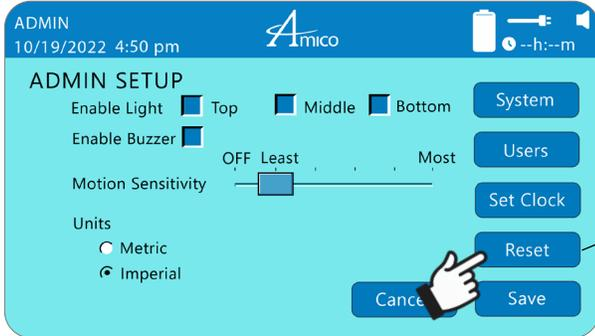
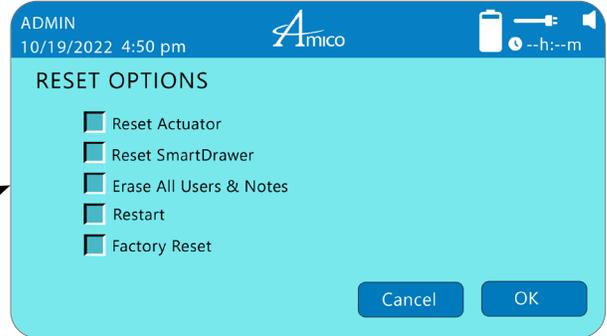

Figure 66
Figure 67
1. Tap on “**RESET**” (Figure 66). In the **RESET OPTIONS** screen you will be able to reset the actuator, reset the SmartDrawer, erase all users and notes, and perform a factory reset (Figure 67).